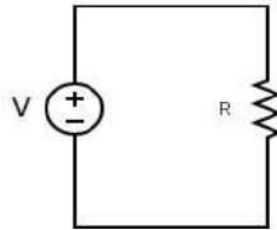

Figure 1
3. Connect the circuit shown in Figure 1 using R to start. Set DMM to measure voltage and current simultaneously or separately.